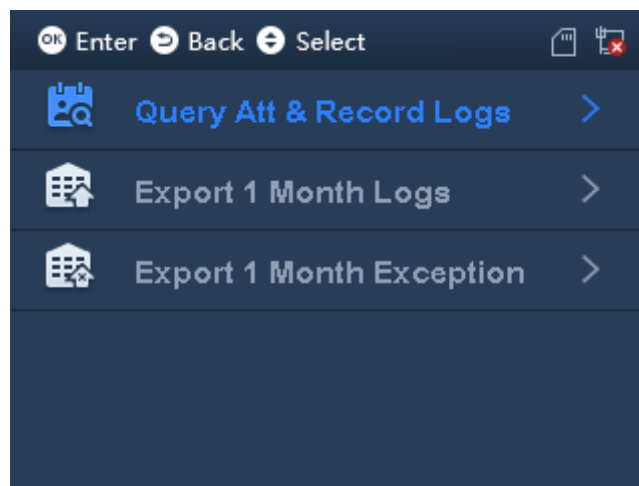

Figure 2-18
Enter main menu, click  or  to select Data, click . Or click number key 3 directly. See Figure 2-18.